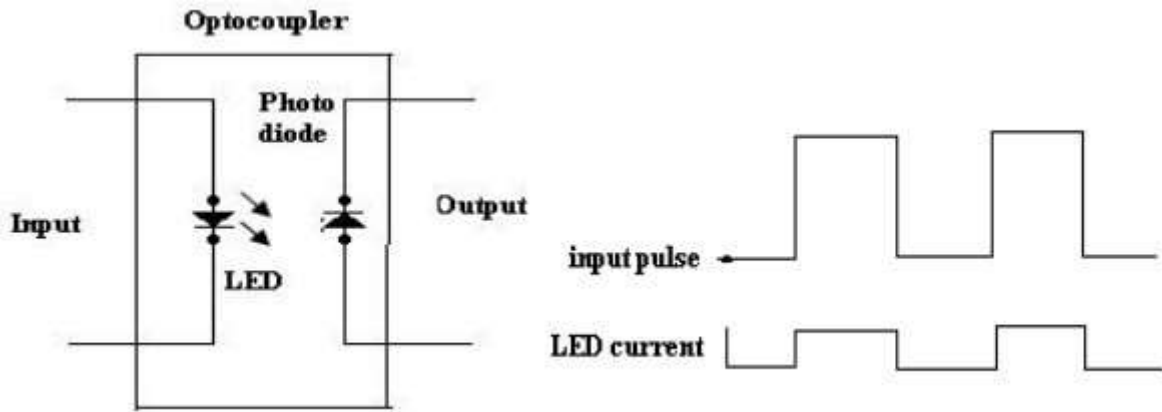

Figure 5.14.1. Schematic of LED-photodiode opto coupler and its waveforms
- LED photodiode and its waveforms are shown in figure 5.14.1, here the infrared LED acts as a light source & photodiode is used as a detector.